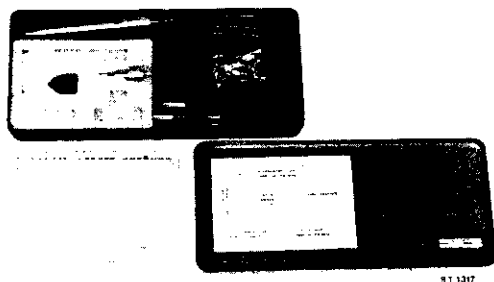

Fig. 4.
2.2.3. HF probe type PM 9210 (Fig.4) Accessory set for the probe type PM 9212 (Fig. 5)